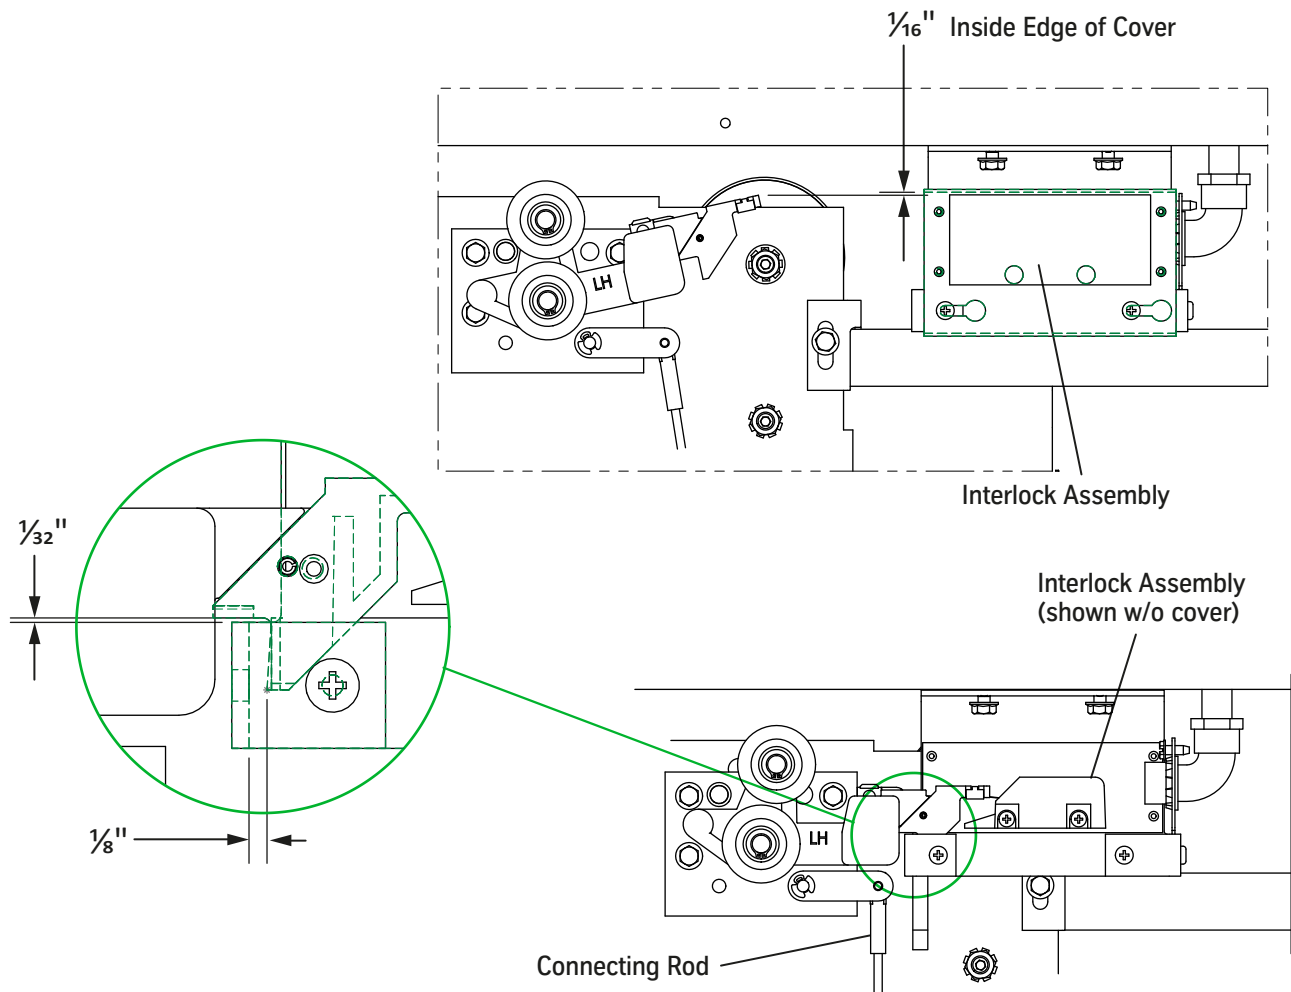

Figure 19 - Single Speed Interlock Adjustment
3. Close the doors, and verify the following. See Figure 19 on page 30.